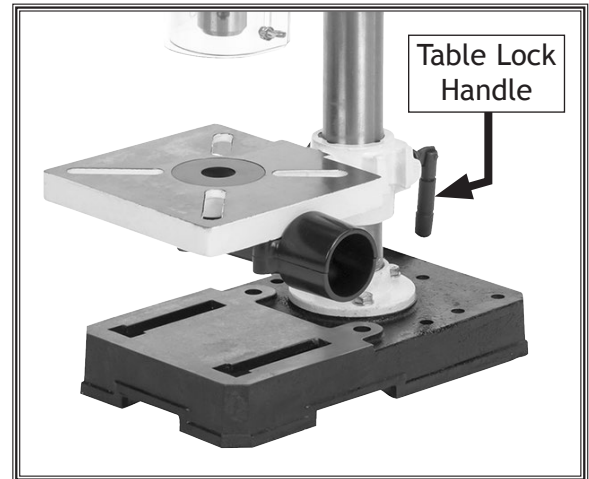

Figure 21. Location of table lock handle.
1. While supporting table, loosen table lock handle (see Figure 21).